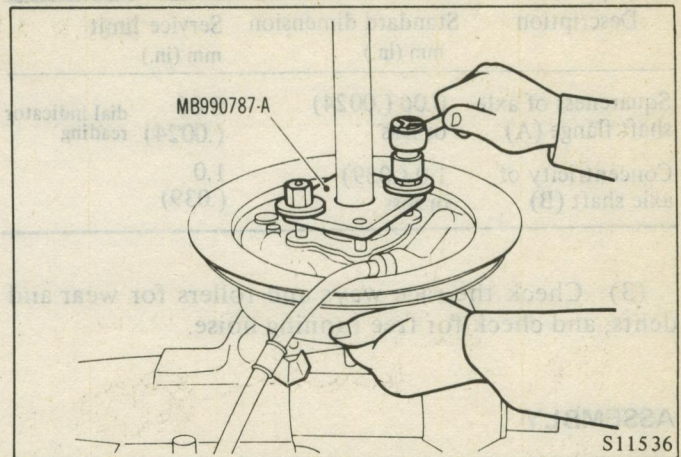

Fig. 7 Removing the Bearing Case
(8) Remove lock washer and plane washer.
(9) Reinsert lock nut on the axle shaft approximately three turns.
(10) Install special tool (MB990787-A) as shown in Fig. 7 to remove bearing case from the rear axle shaft. Be sure to install nuts and washers diagonally.